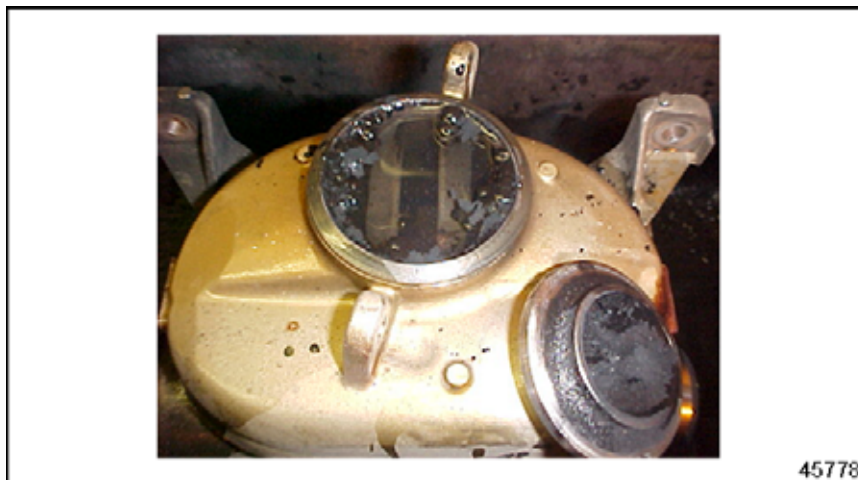

Figure 10-5 Observing the EGR Cooler for Bubbles
4. Disconnect the regulated air supply from the regulator and watch for bubbles on the exhaust side of the cooler. See Figure 10-5.